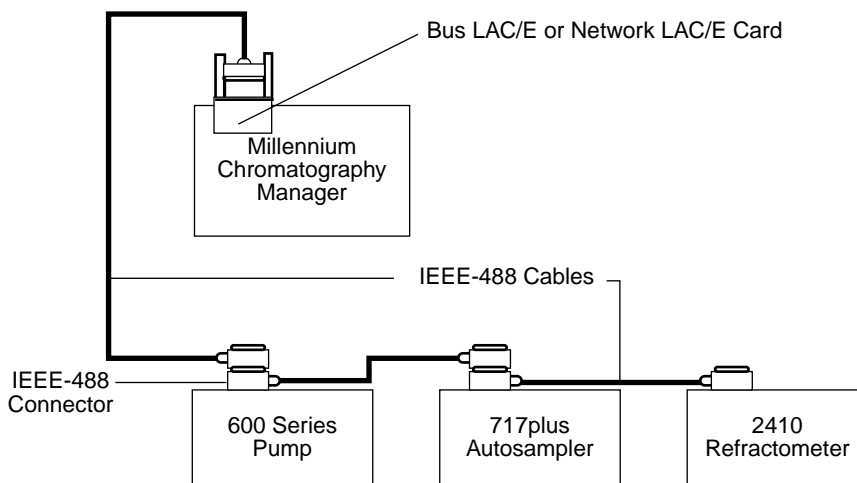
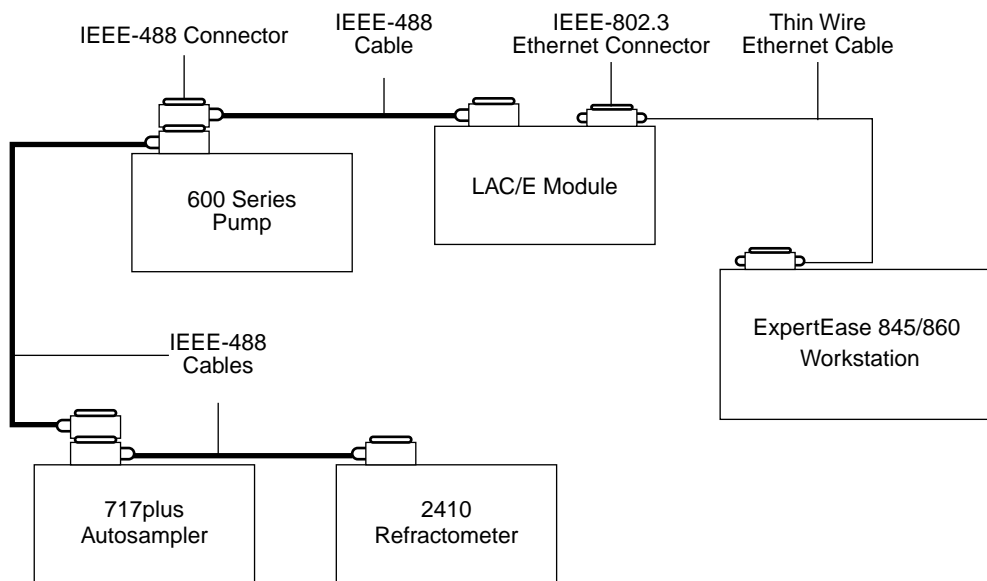
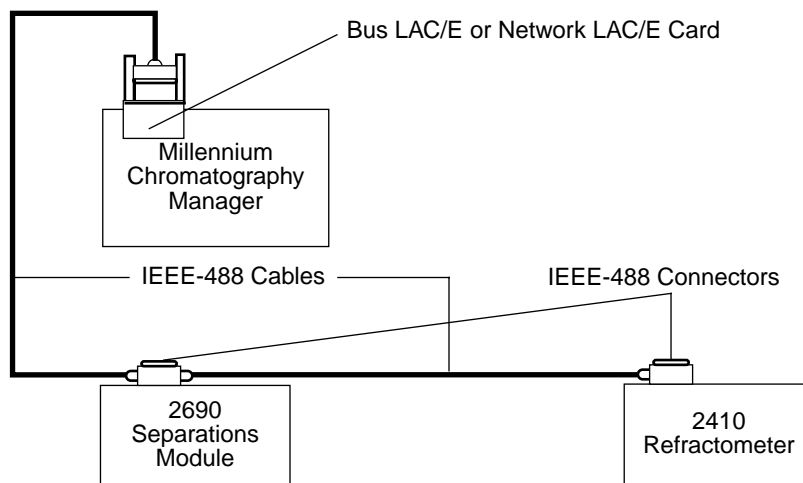

Figure 3-3 Waters Millennium System IEEE-488 Connections
Figure 3-4 Waters 845/860 System IEEE-488 Connections
Figure 3-5 Waters Alliance System IEEE-488 Connections
You can use the IEEE-488 bus to connect the 2410 refractometer to a Waters data system in any one of the following configurations (see Figure 3-3, Figure 3-4, and Figure 3-5):
- Millennium Chromatography Manager through the busLAC/E™ card installed on the computer (Figure 3-3)
- Waters 845 or 860 system through a LAC/E module (Figure 3-4)
- Waters 2690 Separations Module as part of an Alliance system (Figure 3-5).